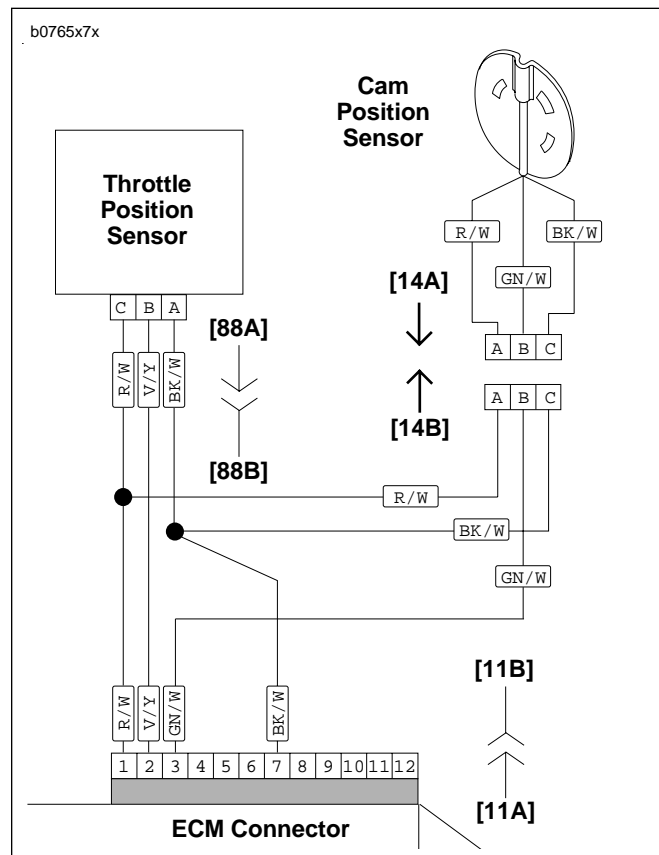

Figure 4-76. Connecting Sensor Wires
- Install trigger rotor (16).
- Apply LOCTITE 243 (blue) to threads of bolt (17).
- Position trigger rotor (16) onto end of camshaft aligning notch with camshaft slot.
- Install cam position sensor (18) and timer plate studs (4). Rotate cam position sensor to its previously marked position to obtain approximate ignition timing.
- See Figure 4-76. Install sensor wiring terminals into correct positions in plug end of connector [14]. R/W, GN/W and BK/W wires of plug end (from cam position sensor) must match same color wires in receptacle end of connector (from ignition module wiring harness). Install pin terminals. See B.2 DEUTSCH ELECTRICAL CONNECTORS under B.1 AMP MULTILOCK ELECTRICAL CONNECTORS.